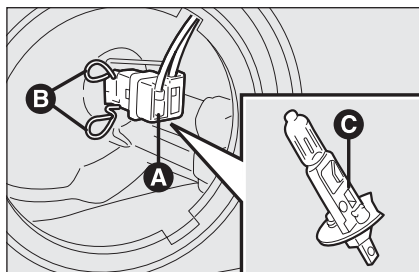

fig. 22
- ☐ disconnect the electric connector **A-fig. 22**;
- ☐ release the bulb catch **B-fig. 22**;
- ☐ remove the bulb **C-fig. 22** and replace it;